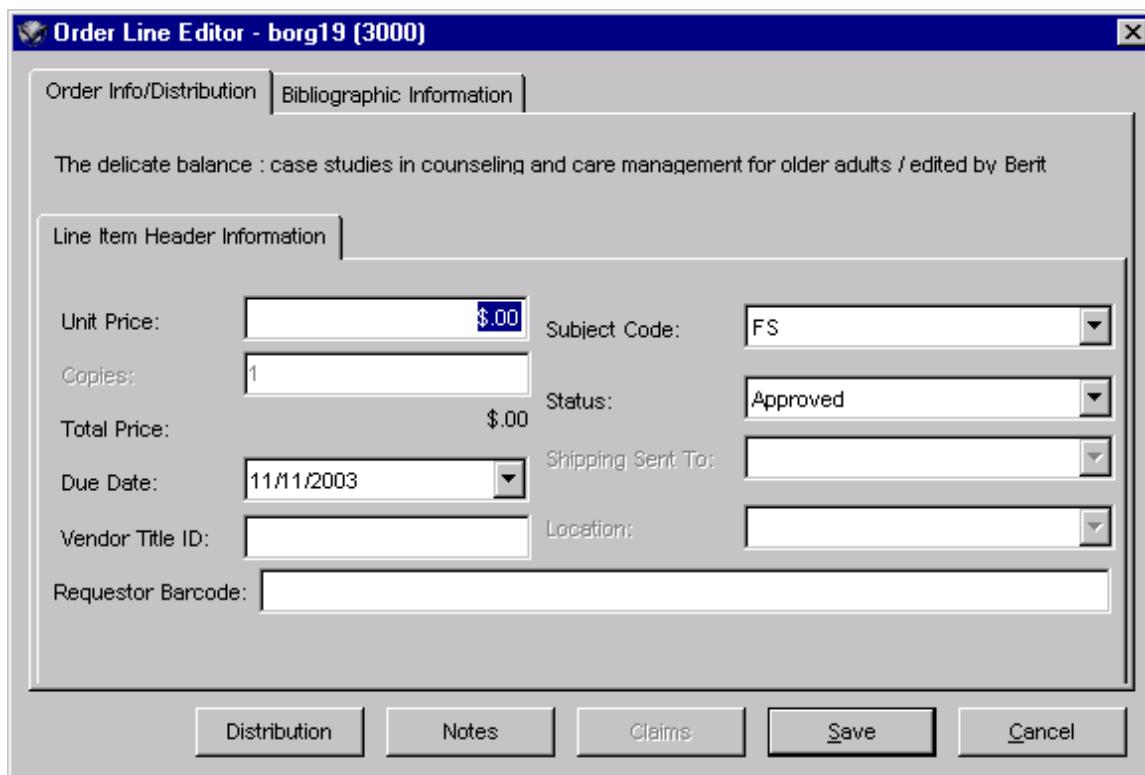

Figure 4-1. Order Line Editor - Distribution-enabled Monograph Order
If all three conditions are met, for a selected order line item, a Distribution button will appear in the Order Line Editor (*Figure 4-1*).
1. On the Order Line Editor window (Figure 4-1), click the Distribution button.